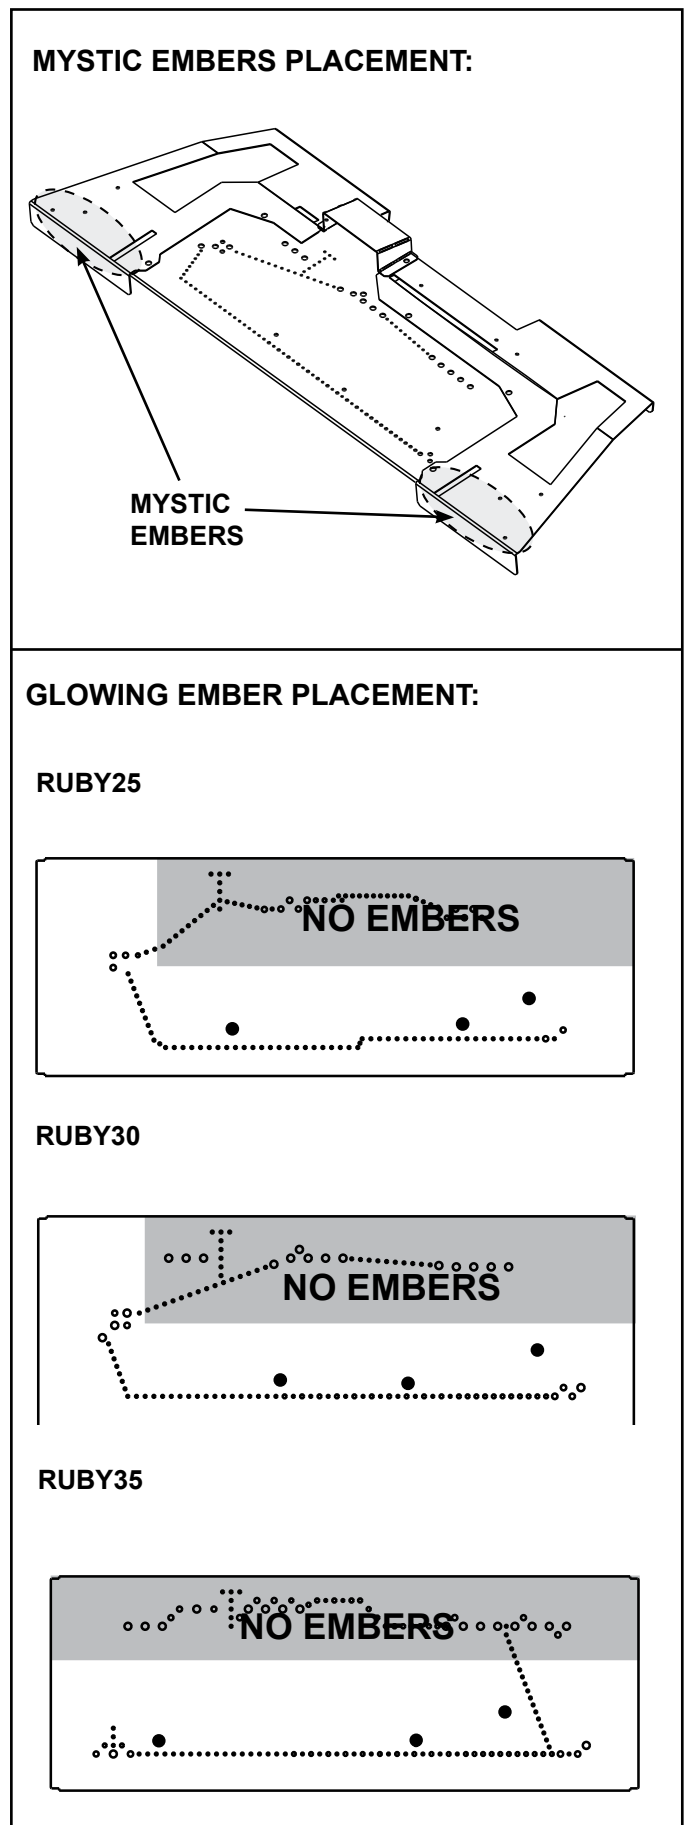

Figure 9.5 Placement of Embers
- Embers CANNOT be placed in the shaded area as shown in Figure 9.5.